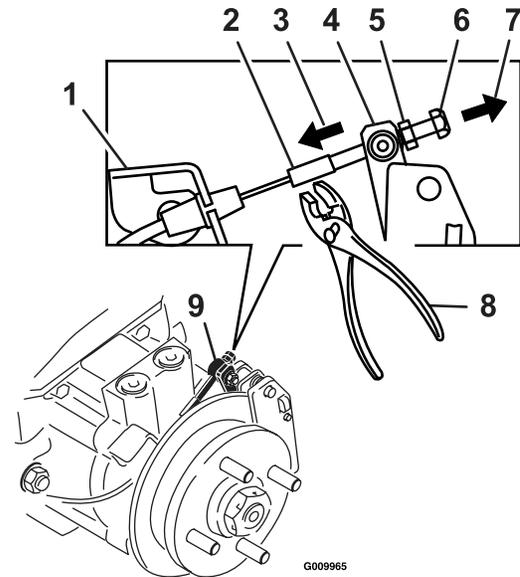

Figure 30
9. Using hands and fingers only, push the caliper lever arm to engage the brake pads on the rotor until the lever stops. While holding the lever at the stopped position, use the other hand or fingers to pull the cable threaded end tight through the swivel. Spin the standard nut against the swivel (see Figure 30).